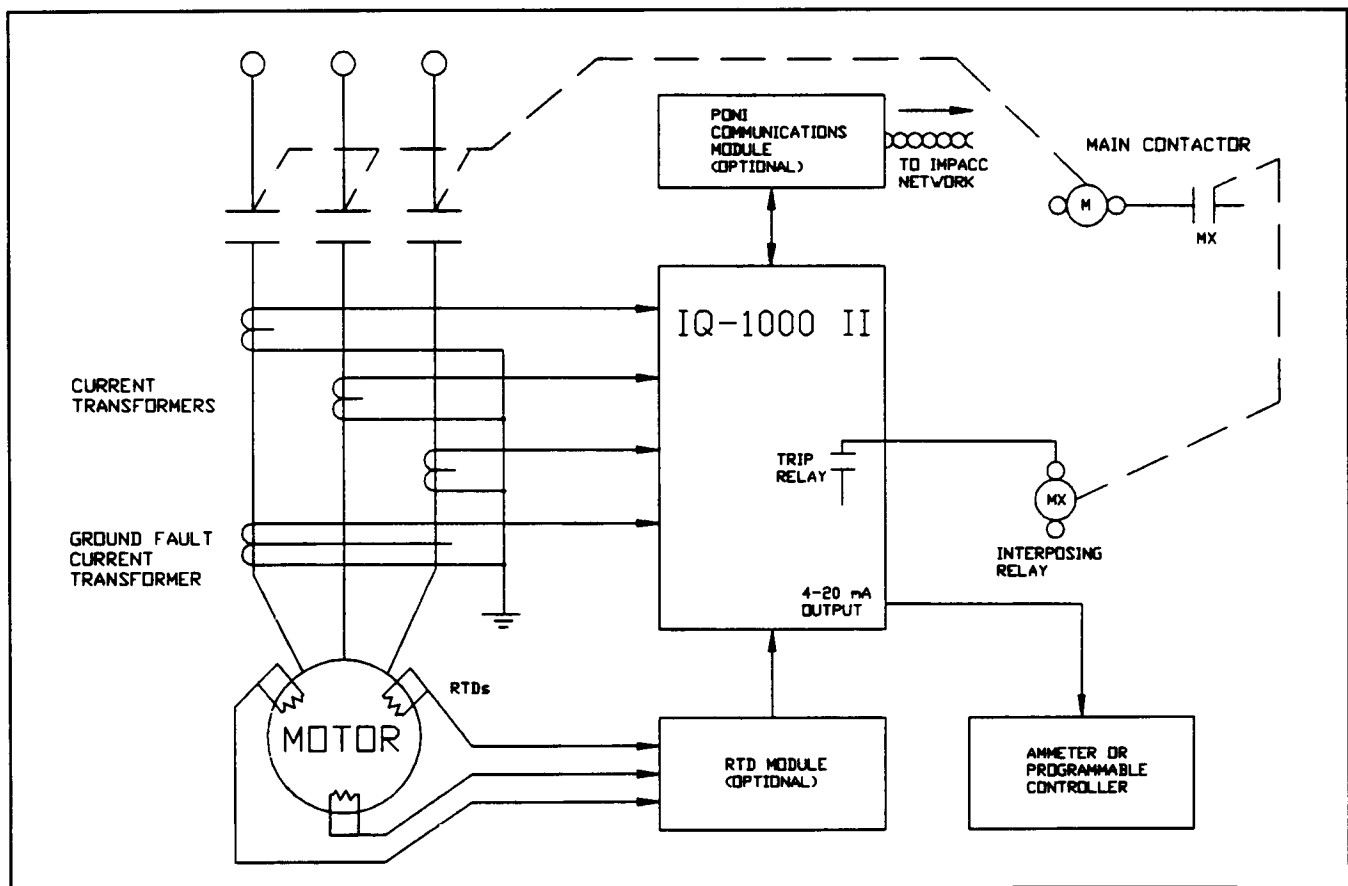

Figure 3.1 — System Overview (Simplified)
**3.1 Sensing Inputs** — The IQ-1000 II receives motor current sensing derived from 3 separate current transformers, each of which monitors one phase of an AC line to the motor (see Figure 3-1). If an optional zero sequence ground fault transformer is used, the IQ-1000 II monitors ground fault current levels and compares them to a user-selected setpoint. If optional RTDs are used, the IQ-1000 II gathers winding temperature data from six RTDs embedded in the stator windings of the motor. Four RTDs associated with the motor bearings and load bearings can also be monitored for tempera-